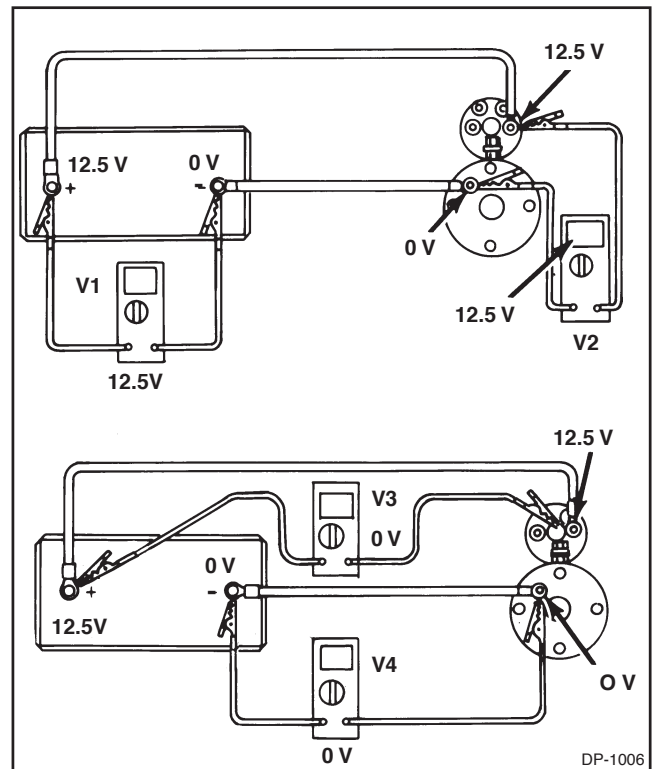

Figure 1-6. Voltmeter Readings With No Current Flow
**1-14. MEASURING VOLTAGE WITH THE VOLTMETER.** The voltmeter is used to measure electrical pressure or voltage. The unit of measure is the volt. Voltmeters are always connected across (in parallel with) a part of the electrical circuit (See Figures 1-6 and 1-7). The voltmeter measures the difference in electrical potential or pressure between the points where the voltmeter is attached.
**1-16. VOLTMETER USE.** Figures 1-6 through 1-8 illustrate the proper use of the voltmeter and the types of readings that can be expected.
1. Figure 1-6 shows the voltmeter being used with no current flow, that is with the starter not operating.